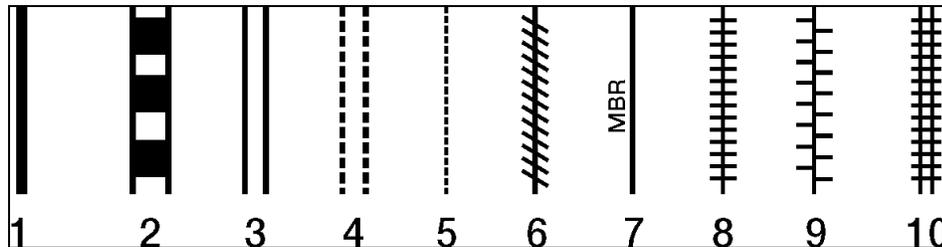
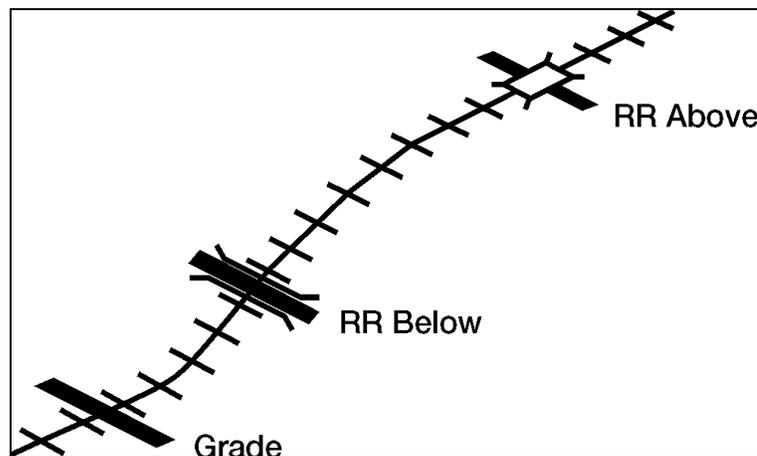

Figure 3-59. Strip Map Symbols
Figure 3-60. Crossings
1. Identify strip map symbols (see Figure 3-59).
- a. Primary road(s) (see item 1).
- b. Secondary road(s) (see item 2).
- c. Other surfaced road(s) (see item 3).
- d. Dirt road(s) (see item 4).
- e. Trail(s) (see item 5).
- f. Impassable section of road(s) (see item 6).
- g. Main supply road(s) (see item 7).
- h. Single-track railroad, broad gauge (see item 8).
- i. Single-track railroad, narrow gauge (see item 9).
- j. Double-track railroad, standard gauge (see item 10).
- k. Crossings (see Figure 3-60).
1. Identified strip map symbols (see Figure 3-59).